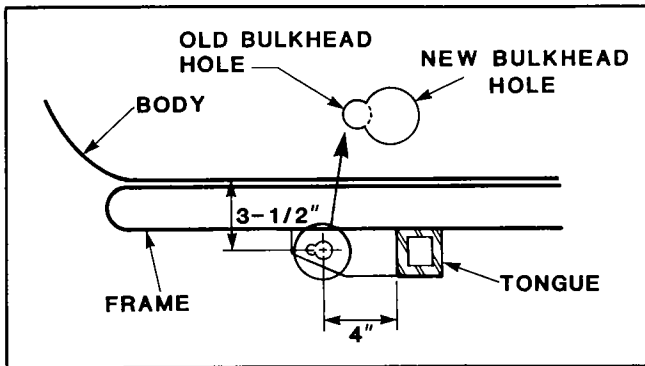

Figure 4. New Bulkhead Fitting Holes
8. Drill a 1-inch hole in the frame bulkhead (figure 4) with a hole saw.